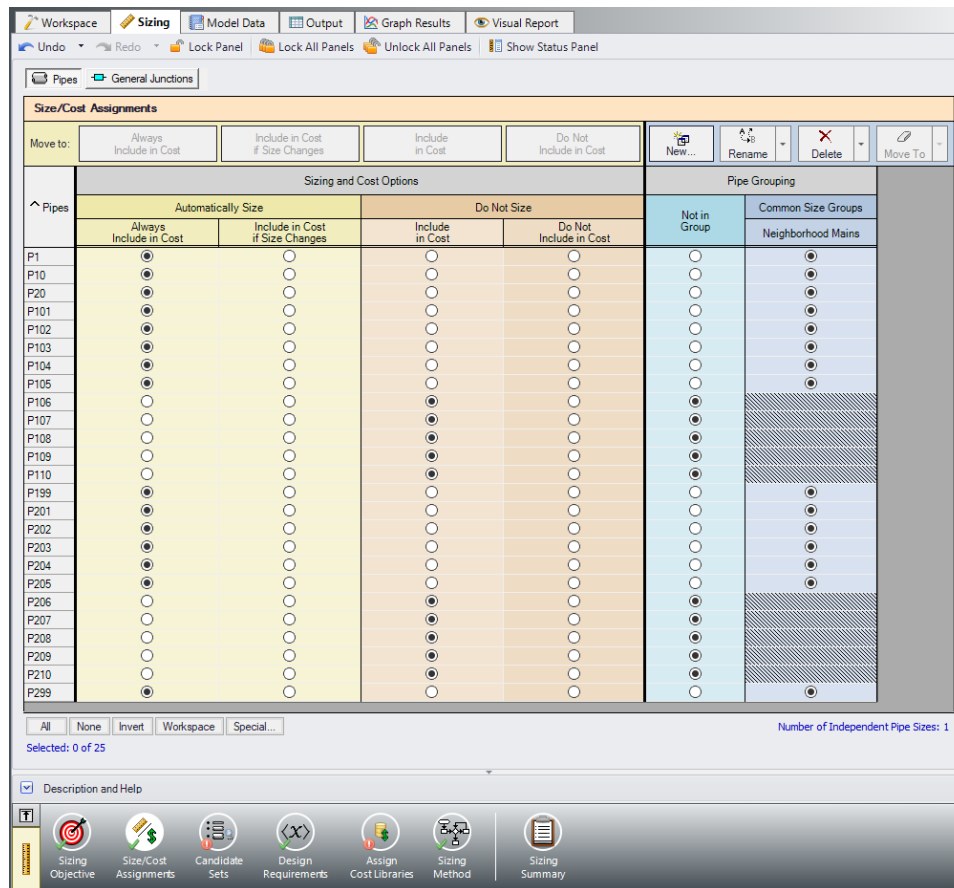

Figure 4: Size/Cost Assignments window with Common Size Groups defined as outlined above
3. Return to the Sizing window. The neighborhood mains, supply line, and the hydrant supply lines should now all be included in the new pipe group, and should be moved to Always Include in Cost as shown in Figure 4.